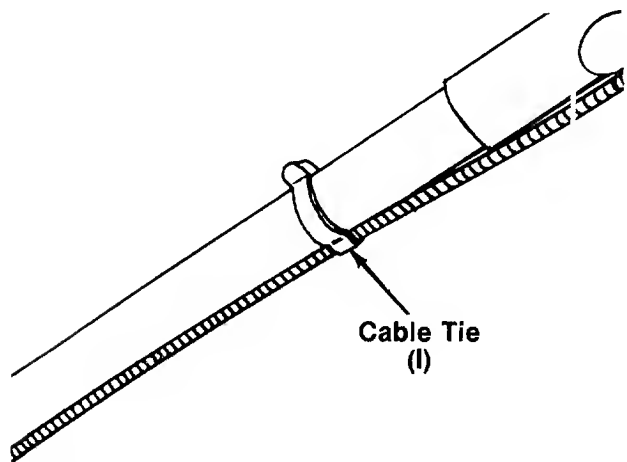

FIGURE 7.
11. Secure throttle control cable and brake cable to upper and lower handles with cable ties (I). See figure 7.